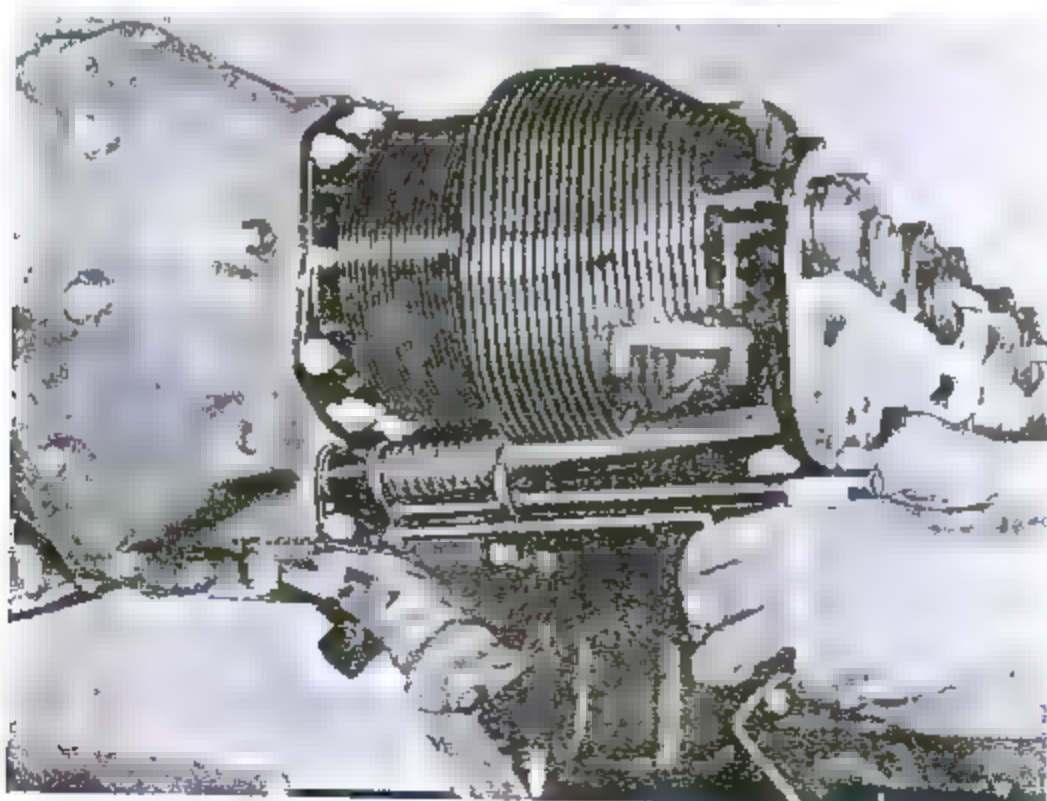

Figure 7-8. Installing Pushrod Housing Assembly
f. Hang piston ring compressor, tool group 16, on connecting rod. Cradle cylinder and valves assembly in arm. Work ring compressor into position on rings, and compress them firmly; then push cylinder over piston. (See figure 7-8.) Remove ring compressor, and seat cylinder on crankcase.
h. Assemble pushrod housing parts, as described in paragraph 6-34 step "i". Compress spring with compressor, tool group 17, claws grasping housing flange and end of spring (not seal and washer). (See figure 7-8.) Insert end of housing and seal into
flange on crankcase; then swing outer end of housing into line, and release pressure on spring slowly as housing and outer seal are guided into rocker box hole. (See figure 7-8.) If such a tool is not available